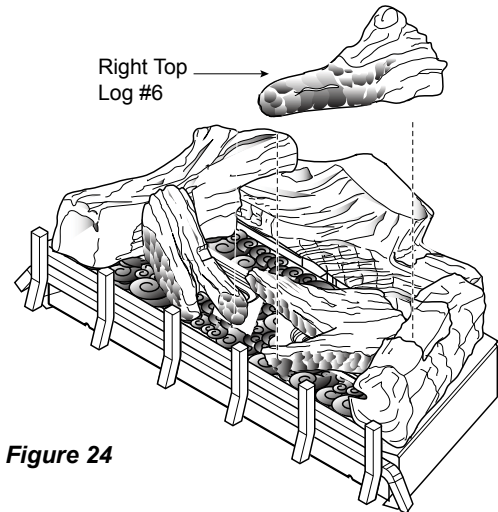

Figure 24
- Place one end of right top log #6 on cutout of right base log. Align opposite end on right center log. *Figure 24*